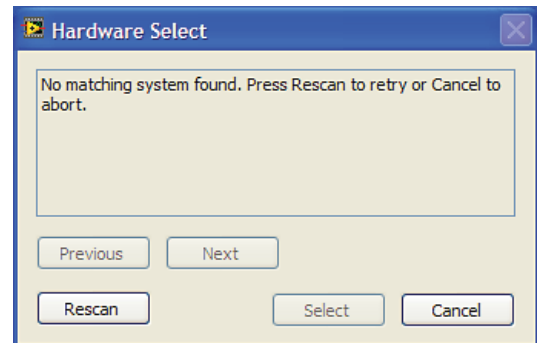

Figure 14. Connectivity Error Alert
2. If the AD7450A/51 evaluation system is not connected to the USB port via the EVAL-SDP-CB1Z when the software is launched, a connectivity error displays (see Figure 14). Connect the evaluation board to the USB port of the PC, wait a few seconds, click **Rescan**, and follow the instructions.